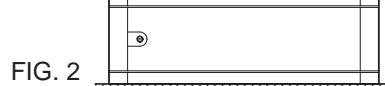

FIG. 2
- (1) Rotate the DIGITAL PROTRACTOR so it faces away from you, the lettering should still be right-side up. (See Fig.2)
- (2) Align with the same edge or line – wait 10 seconds.
- (3) Press HOLD button until "[2]" appears.